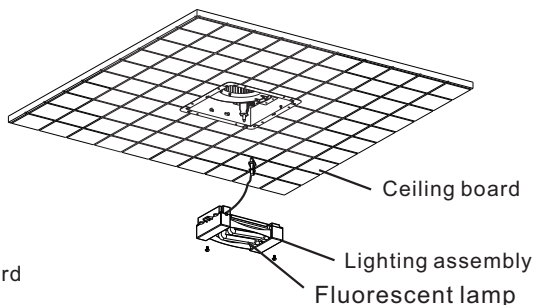

Fig.7
8. Fix the lighting assembly into the housing by screws (Fig.7). And then insert the 18 watt fluorescent lamps into the lighting assembly .